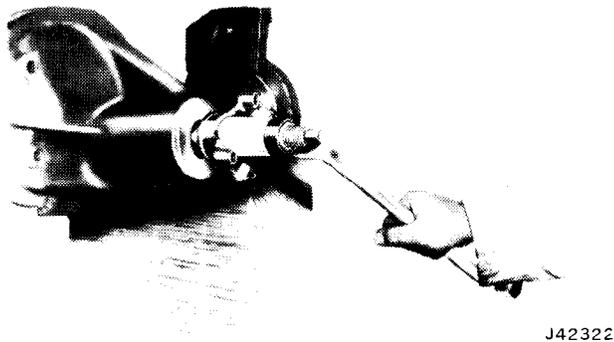

Fig. 10-3 Installing Yoke
(4) Remove pinion shaft oil seal using Remover Tool J-25180.
(5) Install replacement oil seal using Installer Tool J-25104.
(6) Install yoke using Installer Tool J-25173 (fig. 10-3).
(7) Install pinion shaft washer and nut. Tighten nut to 210 foot-pounds torque.
(8) Align index marks on propeller shaft and yoke and install shaft. Tighten attaching bolts or nuts to 16 foot-pounds torque.
(9) Remove supports and lower vehicle.